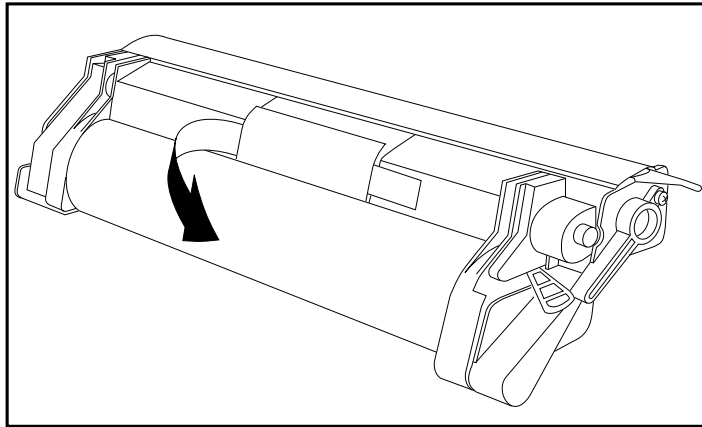

Fig. 2.8 Remove the Plastic Protective Sheet and Tape
4. Grasp the center tab labeled “Remove the black sheet slowly” and gently pull out and discard the protective black plastic sheet from the toner cartridge (fig. 2.8).